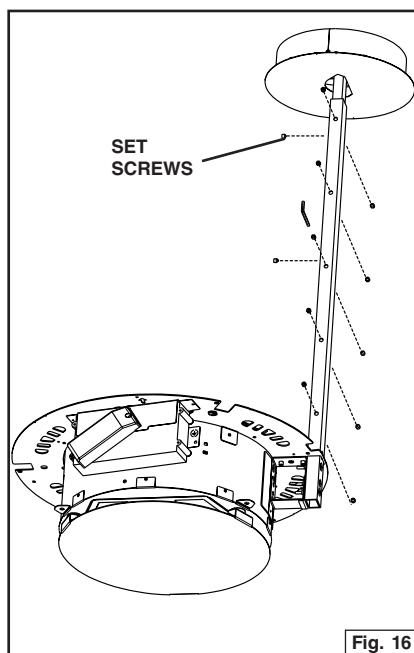

Fig. 16
10. Install the lower support arm onto the upper arm at the desired mounting height. Tighten the set screws making sure at least (5) screws are in contact with the upper arm. Fig. 16. Repeat for the second unit.